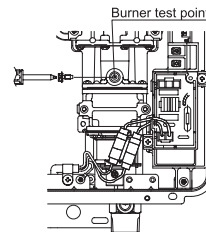

Fig. 3
9. Set the Infinity to 'Forced Low' combustion by setting No. 7 dip switch of the (SW1) set of dip switches to 'ON'. (Fig.3).